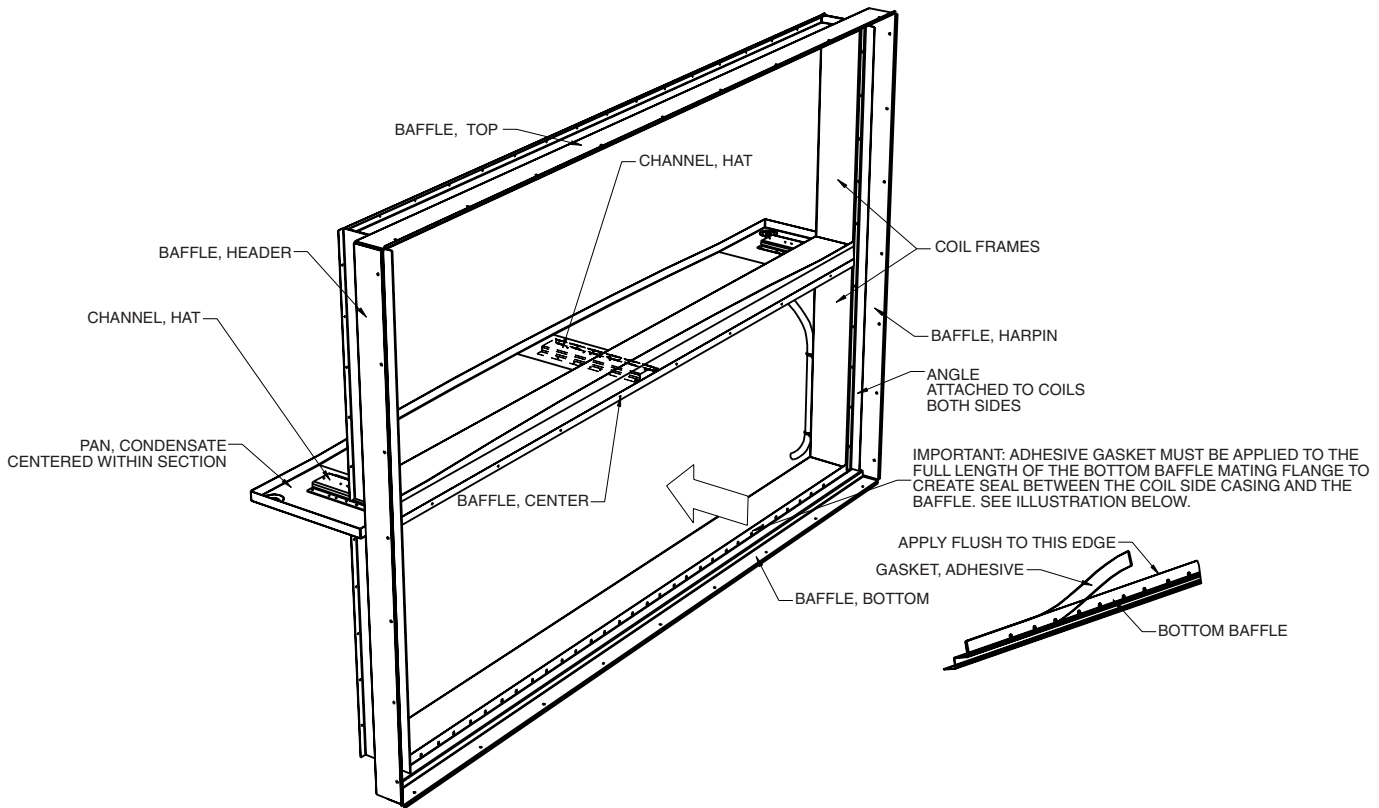

Fig. 47 — Apply Gasket
5. Before placing the coils inside the unit, apply the adhesive backed gasket to the lower baffle, spanning the entire unit, on the surface that will contact the coil (see Fig. 47).
b. Place the heavy vertical angle (which is full height of the finished coil bank) along the upstream right and left side of the mounting baffles (see Fig. 47). Install screws through this angle first and then into the baffles, engaging the coil tube sheet mounting holes and securing the coil within the unit.
9. Secure two spacers (hat channels) to each end of the bottom of the upper coil casing before placing the coil in position (refer to Fig. 47).
13. On the upstream side of the stacked coils, attach the center baffle (see Fig. 47), spanning the two coils with the crease in the baffle away from the coils, centering it between the side baffles, and aligning the baffle with the holes in the coil casings.
16. Secure the uppermost coil from the upstream side, so that the fastening screws provided pass through the vertical angle and the baffles and engage the coil casing. See Fig 47.